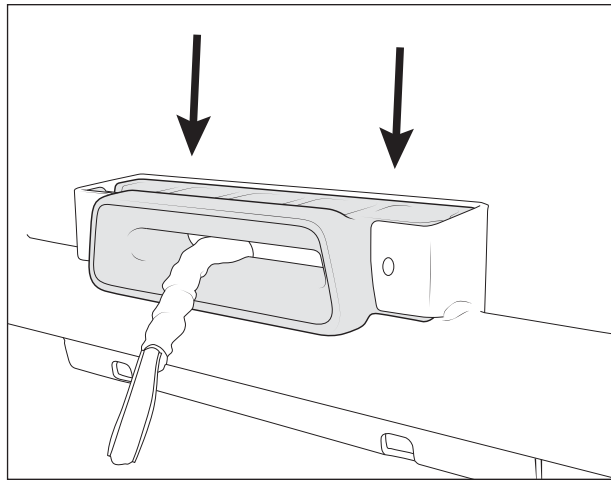

Figure 20
10. Run the winch cable through the Bison fairlead and drop into place (fig. 20).